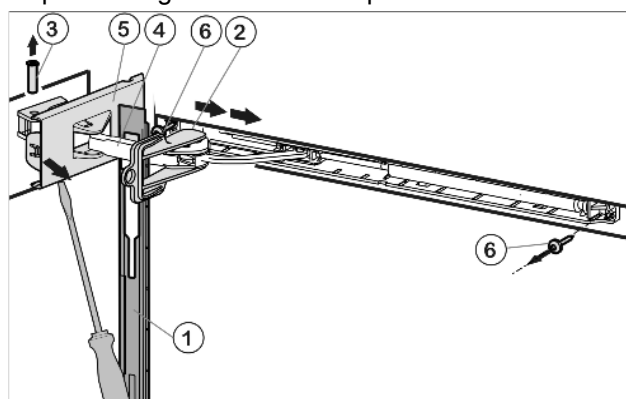

Fig. 28
- Push panel forward over the damper bracket Fig. 28 (4) in the direction of the appliance.
- Engage locking device Fig. 28 (2) into place inside oblong hole.
- Unscrew cover that is on the hinge side Fig. 28 (5) until the first notch is visible.
- Push bolt Fig. 28 (3) out from below.
- ▶ Press damper bracket *Fig. 28 (4)* in the direction of the door.
- ▶ Completely loosen cover that is on the hinge side *Fig. 28 (5)* and remove.
- ▶ Remove panel *Fig. 28 (1)*.
- ▶ Unscrew soft stop unit (2 x Torx 15) *Fig. 28 (6)*.